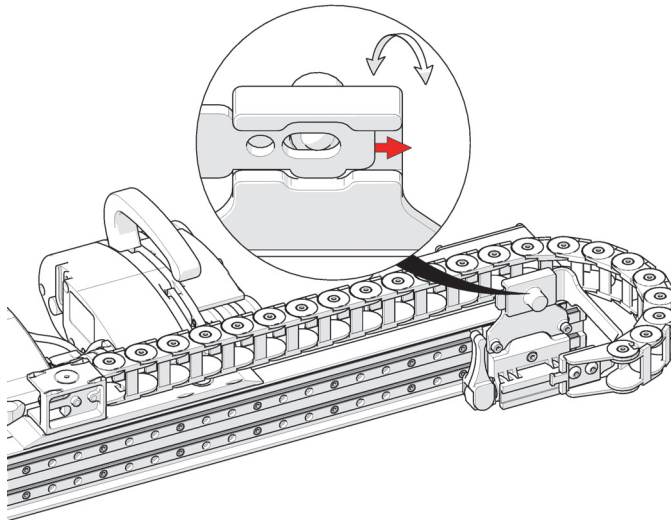

Figure 2-43 Slide bracket attaching to carriage
3. Slide the cable tray bracket until it locks in place (see Figure 2-43 on page 84).